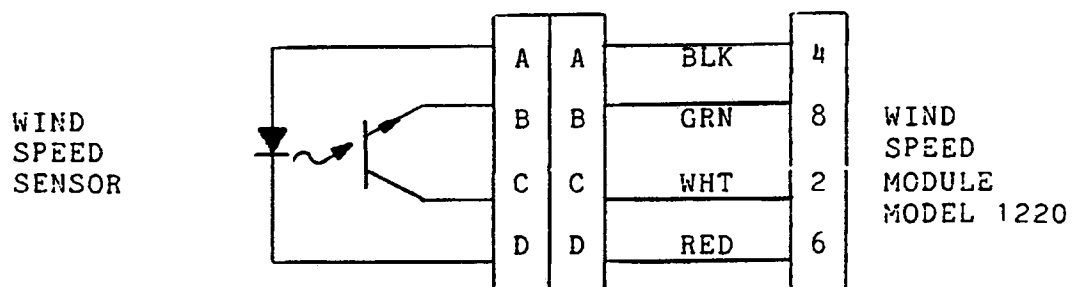

FIGURE 3.1
- 3.10 Install a four wire 20 AWG cable into the mating connector using care in soldering and cable dressing. Replace the connector back shell forming a waterproof assembly. The connector is a quick release type and requires only a quarter turn of the nut to lock in place. Do not tighten with a wrench. Connections are shown in Figure 3.1.